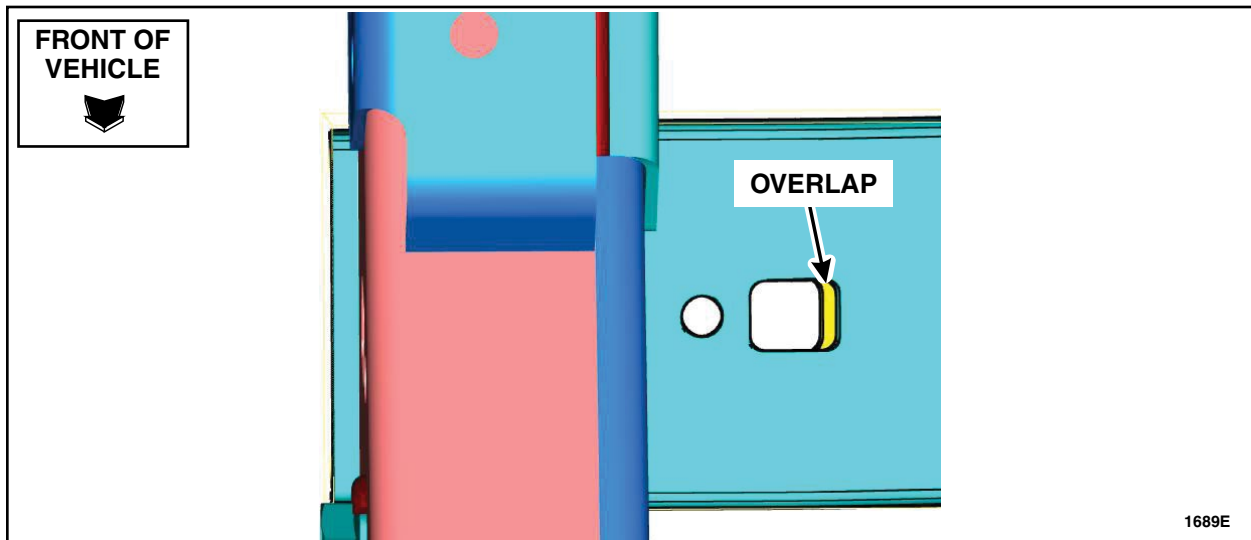

**FIGURE 8**
**NOTE:** A part number is stamped on the top surface of the frame crossmember reinforcement bracket. Apply adhesive to the surface that has **NO** part number markings. See Figure 8.